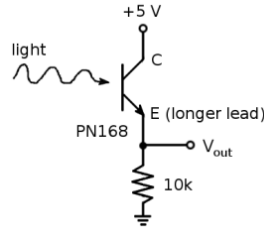

Figure 5: Light sensor circuit
- Light sensor circuit (Fig. 5)